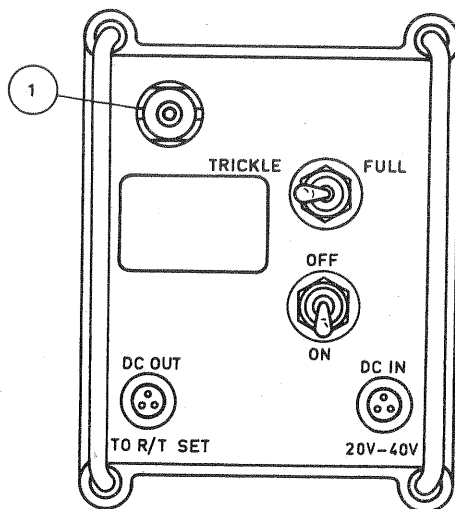

FIG 13 – POWER SUPPLY PP-F1 FRONT PANEL CONTROLS
46. The installation kit includes a Power Supply PP-F1 which must be powered by a battery or generator. Set the ON/OFF switch of the Power Supply to OFF and the charging rate switch to FULL or to TRICKLE as required by the condition of the internal battery of the R/T unit. Refer para 51 for correct charging procedure. After completing the installation, as described in Section 8, set the ON/OFF switch on the Power Supply to ON and carry out the tuning procedure as for a ground station, para 45. Fig 13 shows the front panel controls of the Power Supply, and Table 17 describes their functions.